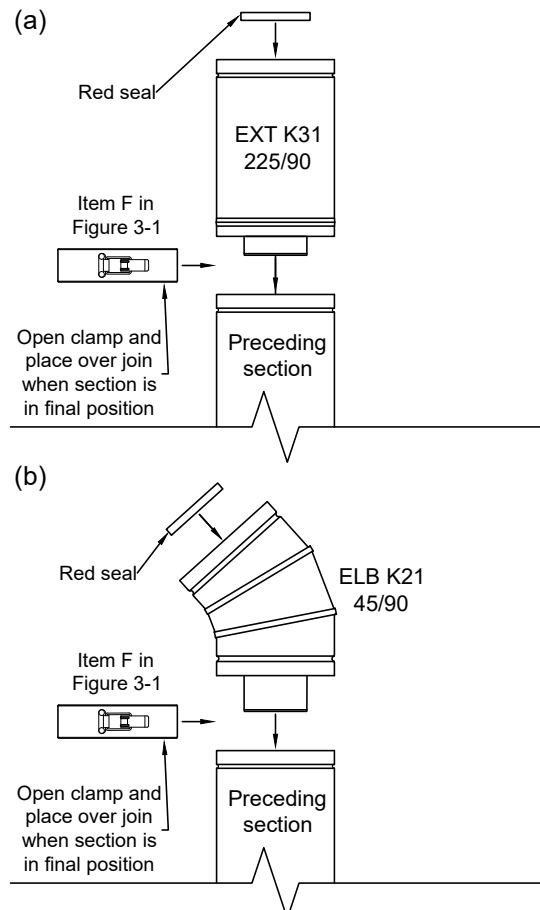

Figure 4-4: Fitting a fixed extension or elbow
- Refer to Figure 4-4 (a) for guidance and Figure 1-1 for a representation of the fixed extensions available for this flue system.
Refer to Figure 4-4 (b) for guidance and Figures 2-2 to 2-4 for a representation of the elbows available for this flue system.